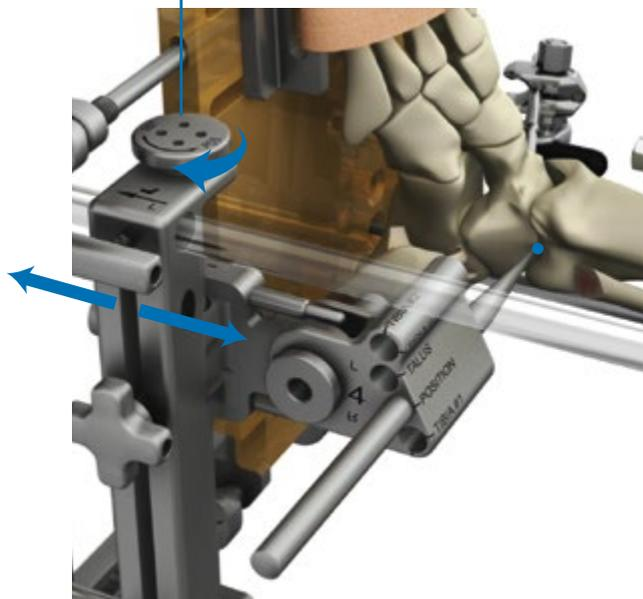

Fig. 34
- Adjust the Cutting Guide System so that the tip of the Center Probe contacts the lateral talus at the superior talar dome and is centered between the tibia and talus (Fig. 34).